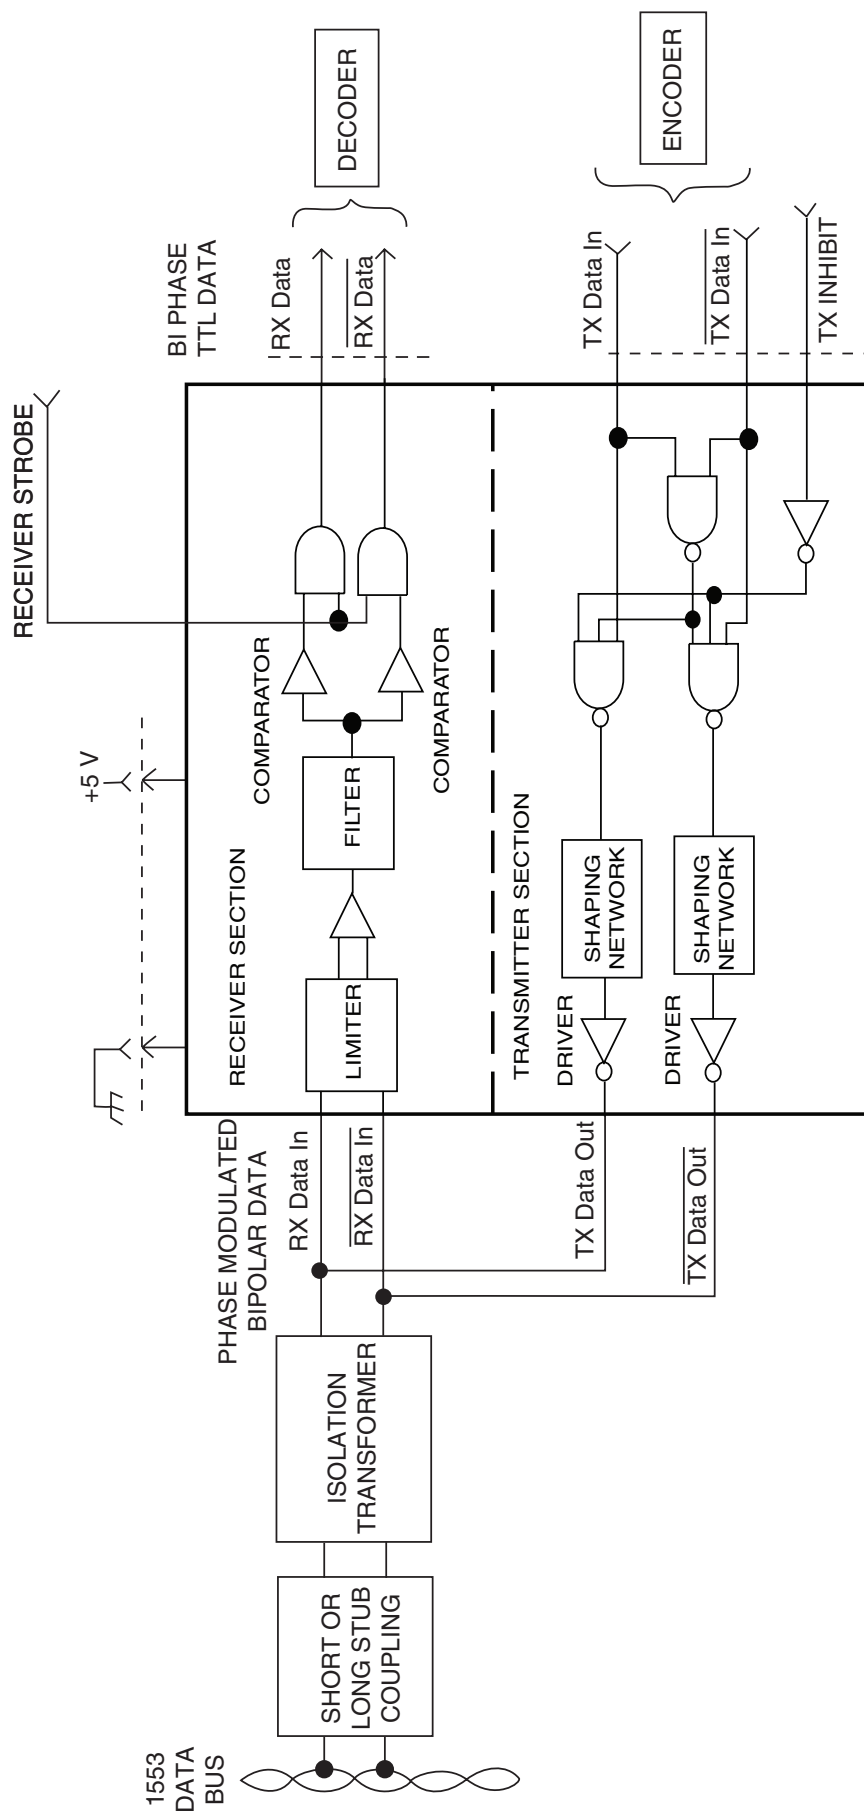
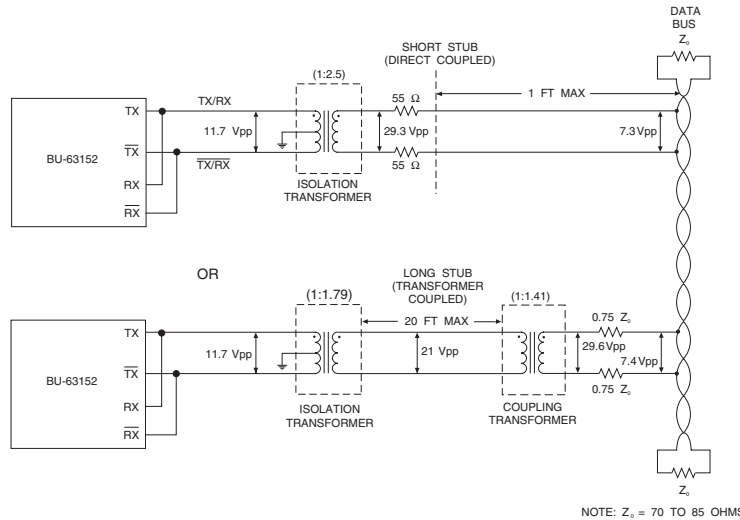

FIGURE 1. BU-63152 BLOCK DIAGRAM
FIGURE 3. BUS COUPLING CONFIGURATIONS (TYPICAL PEAK-TO-PEAK VOLTAGES INDICATED)
- (2) Impedance parameters are specified directly between pins TX/RX A(B) and TX/RX A(B) of the hybrid.
- (3) It is assumed that all power and ground inputs to the hybrid are connected.
- (4) The specifications are applicable for both unpowered and powered conditions.
- (5) The specifications assume a 2 volt rms balanced, differential, sinusoidal input. The applicable frequency range is 75 kHz to 1 MHz.
- (6) Minimum resistance and maximum capacitance parameters are guaranteed over the operating range, but are not tested.
- (7) The Threshold Level, as referred to in this specification, is meant to be the maximum peak-to-peak voltage (measured on the stub) that can be applied to the receiver's input without causing the output to change from the OFF state.
- (8) Assumes a common mode voltage within the frequency range of dc to 2 MHz, applied to pins of the isolation transformer on the stub side (either direct or transformer coupled), and referenced to transceiver ground. Transformer must be a DDC recommended transformer or other transformer that provides an equivalent minimum CMRR.
- (9) MIL-STD-1760 requires minimum output voltage of 20 Vp-p on the stub connection.
- (10) Power dissipation specifications assume a transformer coupled configuration, with external dissipation (while transmitting) of 0.14 watts for the active isolation transformer, 0.08 watts for the active coupling transformer, 0.45 watts for each of the two bus isolation resistors, and 0.15 watts for each of the two bus termination resistors.
- (11) Thermal resistance, Junction-to-Ambient (θ_{JA}) (Either Channel) applies when the device is soldered to a 4 in x 4 in x 0.060 in (FR4 or equivalent) PC board with a "1-oz" (1.4 mil thickness) ground-plane layer on the back of the board, positioned horizontally in still air.
- (12) Assuming the use of isolation transformers with the turns ratios shown in Figure 3 and in the absence of common mode signal on the 1553 stub, this equates to a nominal stub voltage of 38 Volts_{PK-to-PK} transformer-coupled, or 53 Volts_{PK-to-PK} direct-coupled.
FIGURE 1 shows a BU-63152 transceiver connected to a MIL-STD 1553 Data Bus. Once transformer isolated, coupling to a MIL-STD-1553 Data Bus can be either short stub (direct) or long stub (transformer). The recommended transformer for long and short stub coupling is Beta P/N B-3226 (through hole) or B-3227 (surface mount). There are other transformer configurations available from Beta. Reference FIGURE 3 and TABLE 2.